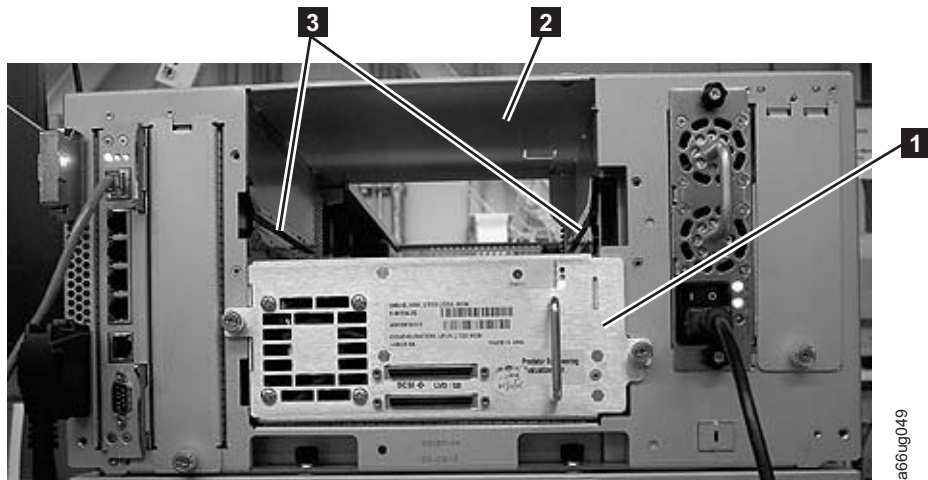

Figure 3-29. Guide rails and guide slots inside a drive slot
1. Align the drive sled with the guide rails and guide slots along the tracks ( **3** in Figure 3-29).